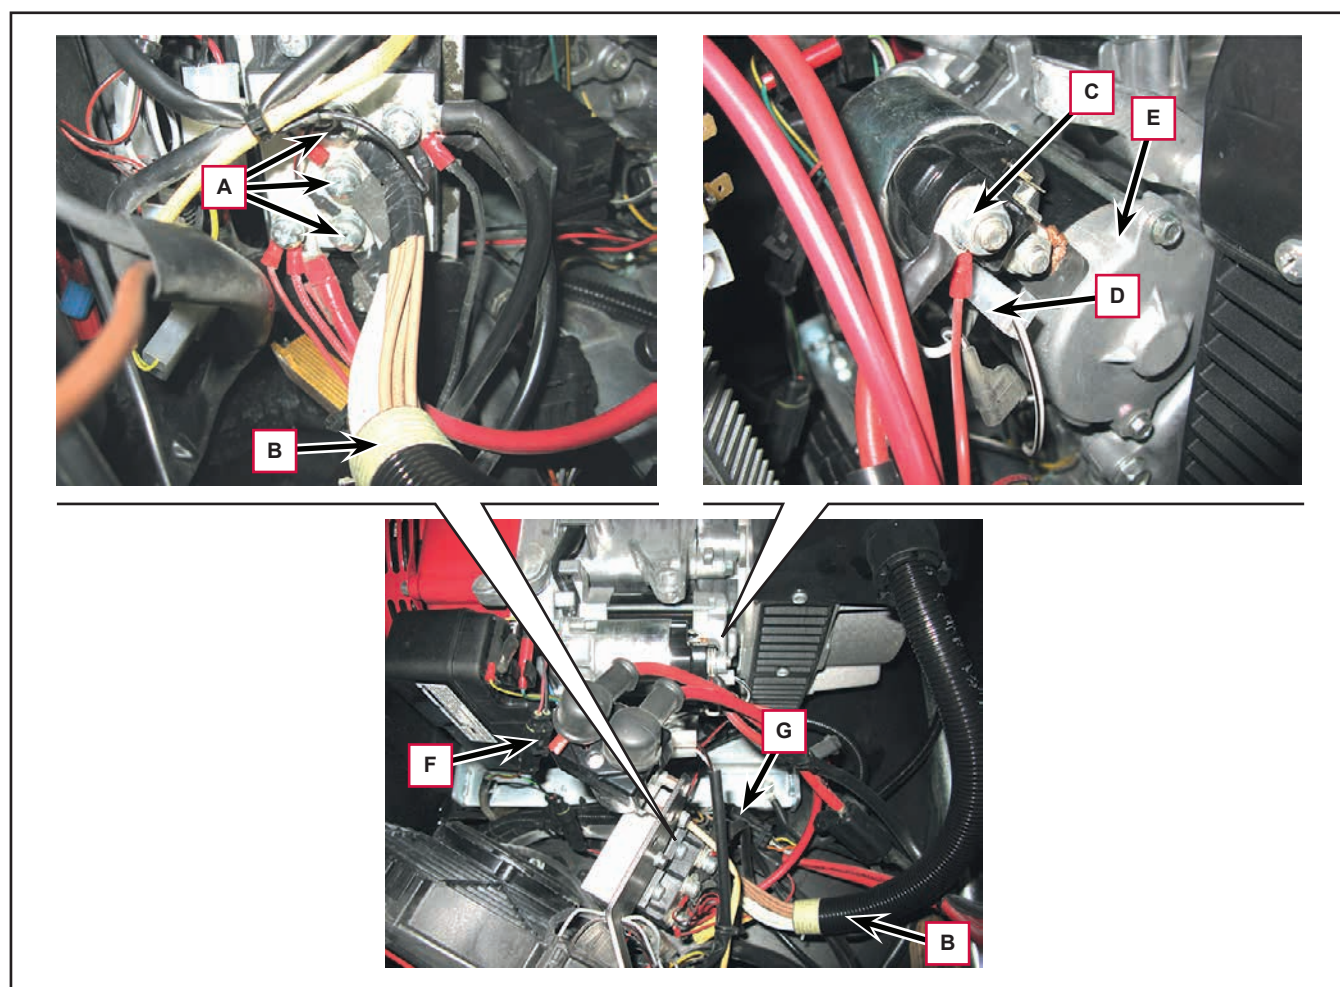

Figure 26
9. Loosen the clamp and disconnect the terminal (H, Figure 26) on the vacuum line.
10. Loosen the clamp and disconnect the terminal (I) on the LPG supply line.